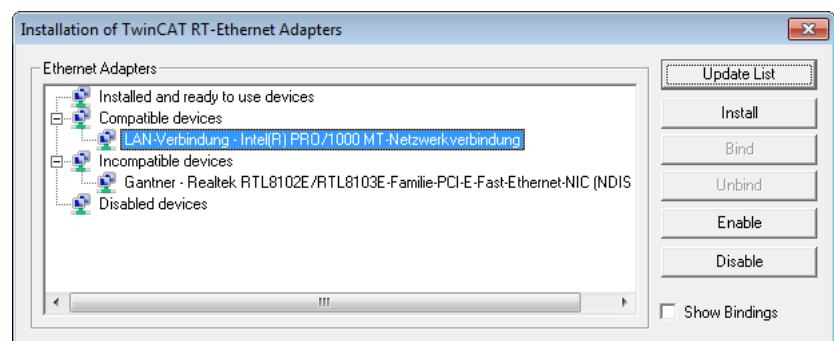

Fig. 6-20 Selecting the interface adapter
- Select the appropriate interface adapter that appears under **Compatible devices** and click **Install** to install the real-time driver for the adapter (Fig. 6-20).